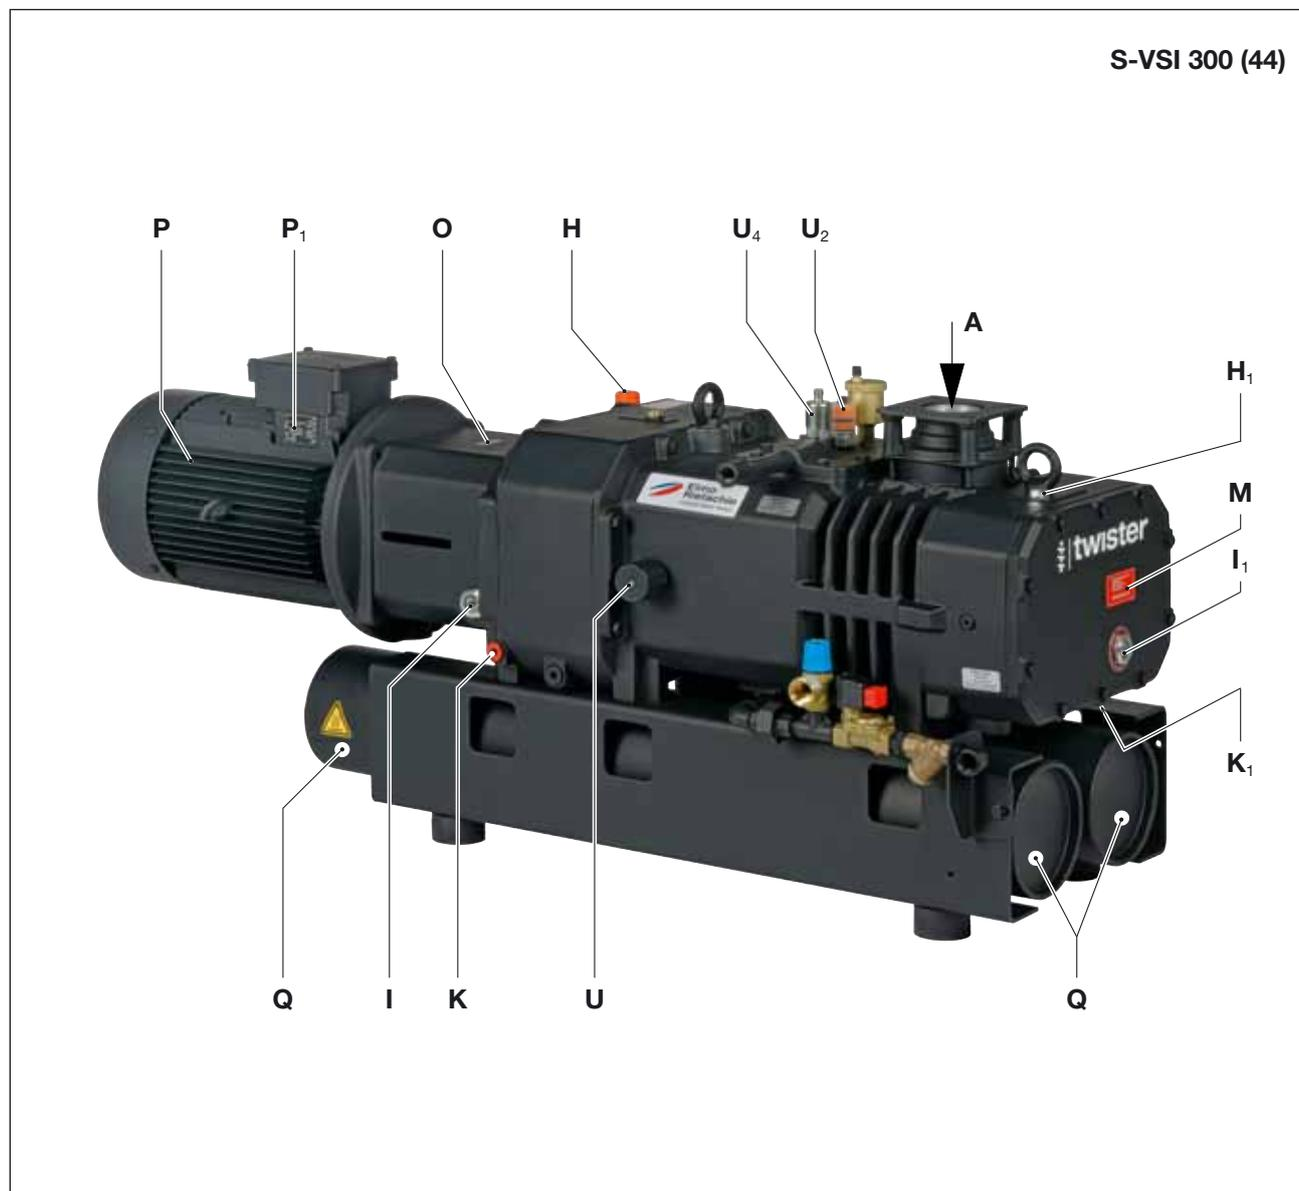

Fig. 2 Vacuum pump S-VSI 300 (44)
The oil fill ports (Fig. 2/H, H₁), oil sight glass (Fig. 2/I, I₁) and oil drains (Fig. 2/K, K₁), cooling water inlet (Fig. 3/C) and cooling water outlet (Fig. 3/D) must be easily accessible. The cooling air intake (Fig. 3/E) and cooling air outlets (Fig. 3/F) must be at least 1 ft. away from adjacent walls. Hot cooling air coming out must not be allowed to recirculate.
- a) Vacuum connection at (Fig. 2/A, 3/A).